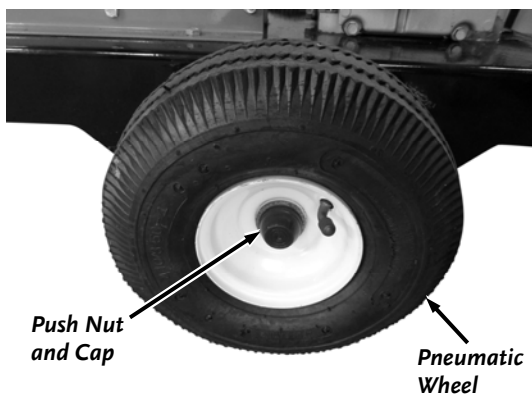

Figure 41
2. Pry the Cap off the axle with a Flat Head Screwdriver (**Figure 41**).